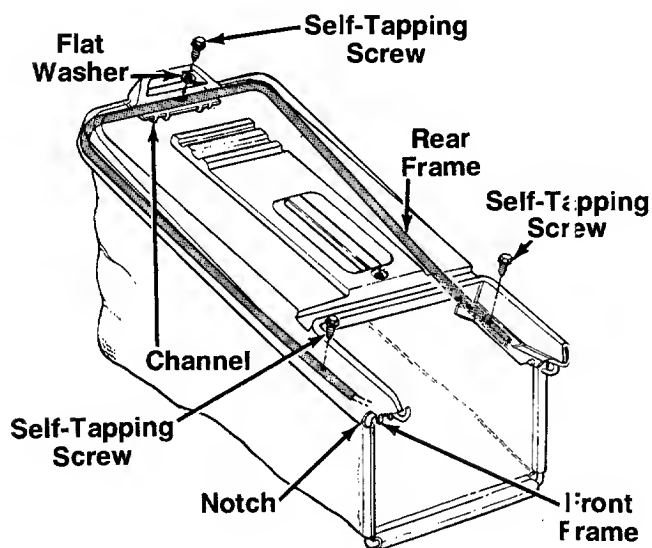

FIGURE 13.
4. Attach the hardtop cover to the grass catcher as follows. See figure 13.
c. Attach rear of cover to frame using the flat washer and one self-tapping screw as shown in figure 13. Attach the sides of the cover to frame with the other two self-tapping screws.